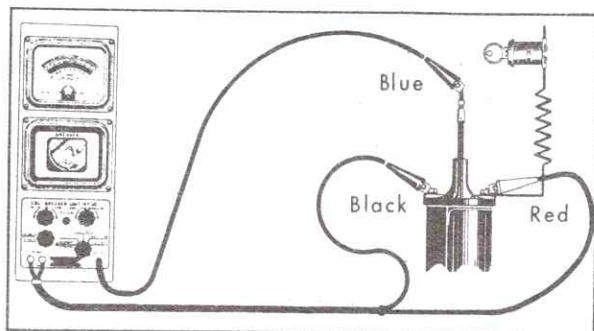

Fig. 6-27 Heating The Coil
3. Connect coil tester leads as shown in Fig. 6-27.